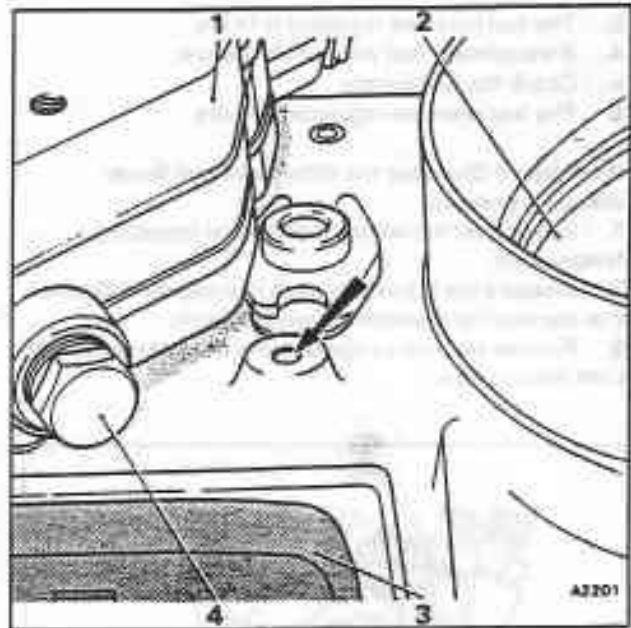

Fig. B4-40 Height adjustment for the air flow sensor plate
8. If the air sensor plate is too high, carefully tap the guide pin lower (see fig. B4-40), using a mandrel and a small hammer.